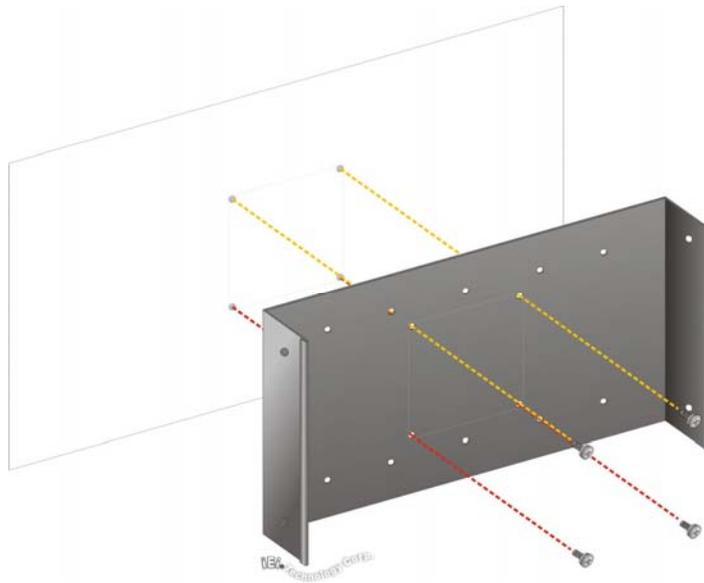

Figure 3-8: Installing the Mounting Bracket
- Step 3:** Align the wall-mounting screw holes of the mounting bracket with the pilot holes. Secure the mounting bracket to the wall by inserting the retention screws into the four pilot holes and tightening them (**Figure 3-8**).